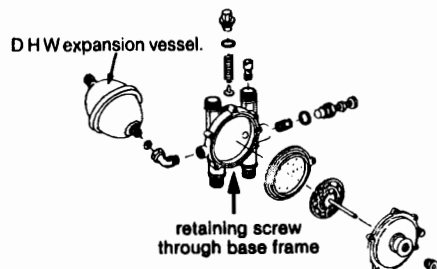

Fig. 38
See fig. 38
- 8.18.5 Remove manifold (fig. 38) gives details of further disassembly.